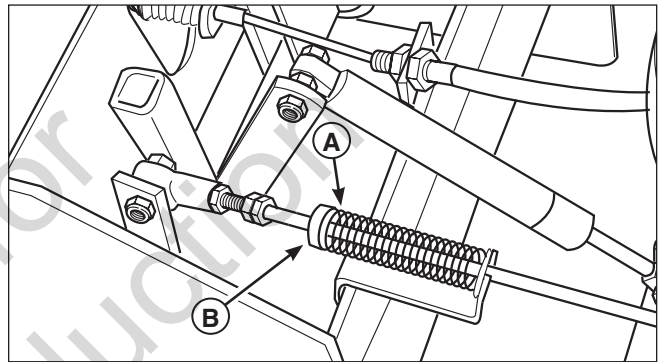

Figure 34. Return to Neutral Adjustment
1. Loosen the set collar (B, Figure 34) locked against the return spring (A).